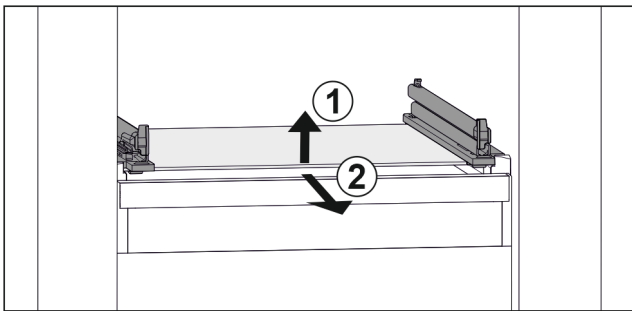

Fig. 45 Example illustration of glass shelf
- ▶ Lift glass shelf at the front. Fig. 45 (1)
- ▶ Remove glass shelf to the front. Fig. 45 (2)